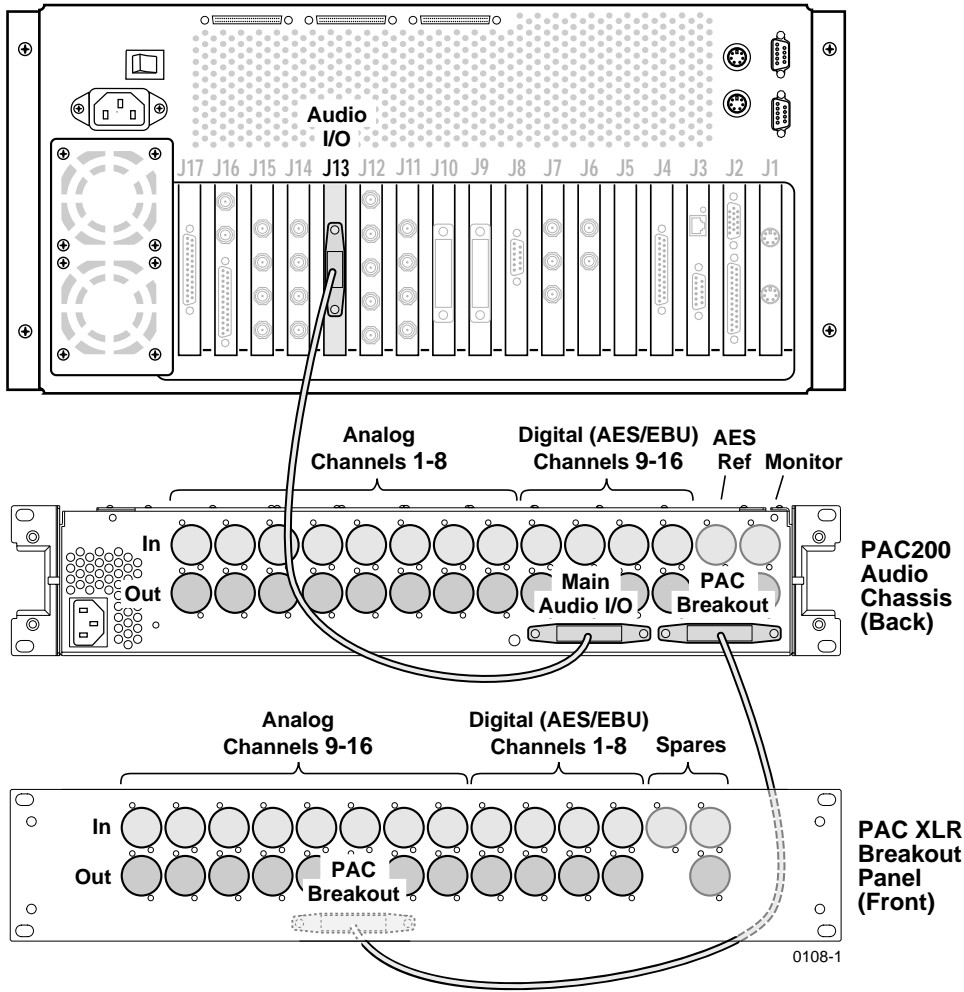

Figure 4. Attaching the PAC XLR breakout panel to the PAC200 audio chassis
3. Reattach the ASPB cable from the connector labeled *Audio I/O* on the back of the Profile unit to the *Main Audio I/O* connector on the back of the PAC200 (PAC208), as shown in Figure 4.
4. Attach the cable that came with the kit from the connector labeled *PAC Breakout* on the back of the PAC200 to the connector labeled *PAC Breakout* on the back of the PAC XLR Breakout Panel, as shown in Figure 4.